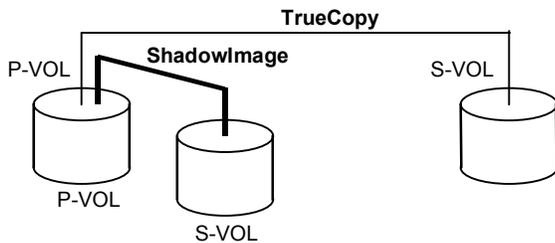

Figure 3.15 Shared TrueCopy P-VOL/ShadowImage P-VOL
- Figure 3.15 shows an example of a TrueCopy P-VOL which is also functioning as a ShadowImage P-VOL. This configuration allows you to use ShadowImage for on-site data backup in case of a TrueCopy failure, and to use TrueCopy to provide remote backup of the ShadowImage P-VOL in case of a ShadowImage failure.
- Figure 3.17 combines the configurations shown in Figure 3.15 and Figure 3.16. Within a single TrueCopy pair, the P-VOL and S-VOL are both functioning as ShadowImage P-VOLs, providing multiple copies at the primary and remote sites.